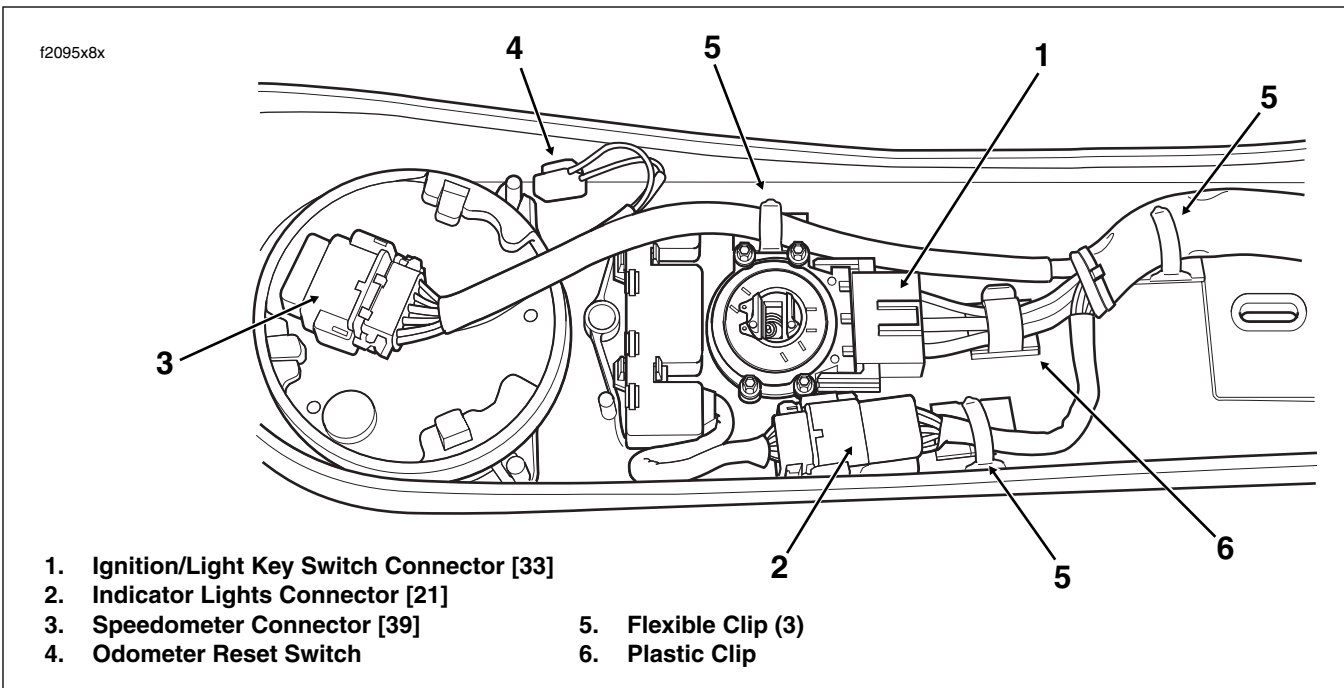

Figure 8-157. Instrument Console Assembly - Main Harness Connectors (FLHR/C)
5. See Figure 8-157. Moving to inboard side of instrument console, disconnect main harness as follows: